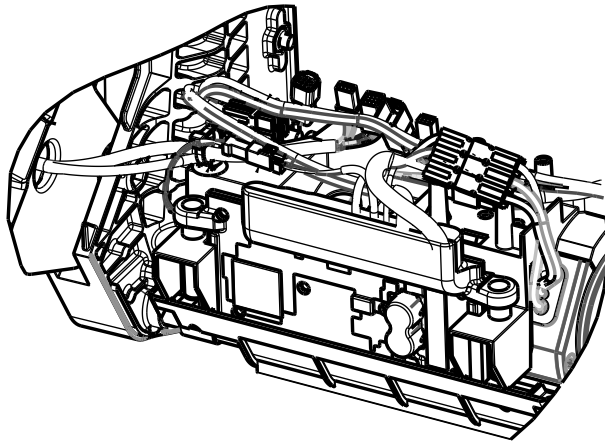

Figure 24 –
2. Using a pick, disconnect all cable connections to the power box PCBA (Figure 24).